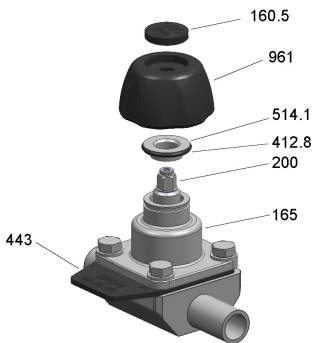

Fig. 8: SISTO-C HV.11/.21 MD 30.4: Setting the closed-position travel stop
6. Insert cover 160.5 into handwheel 961. This secures stem 200 (⇒ Fig. 8) .